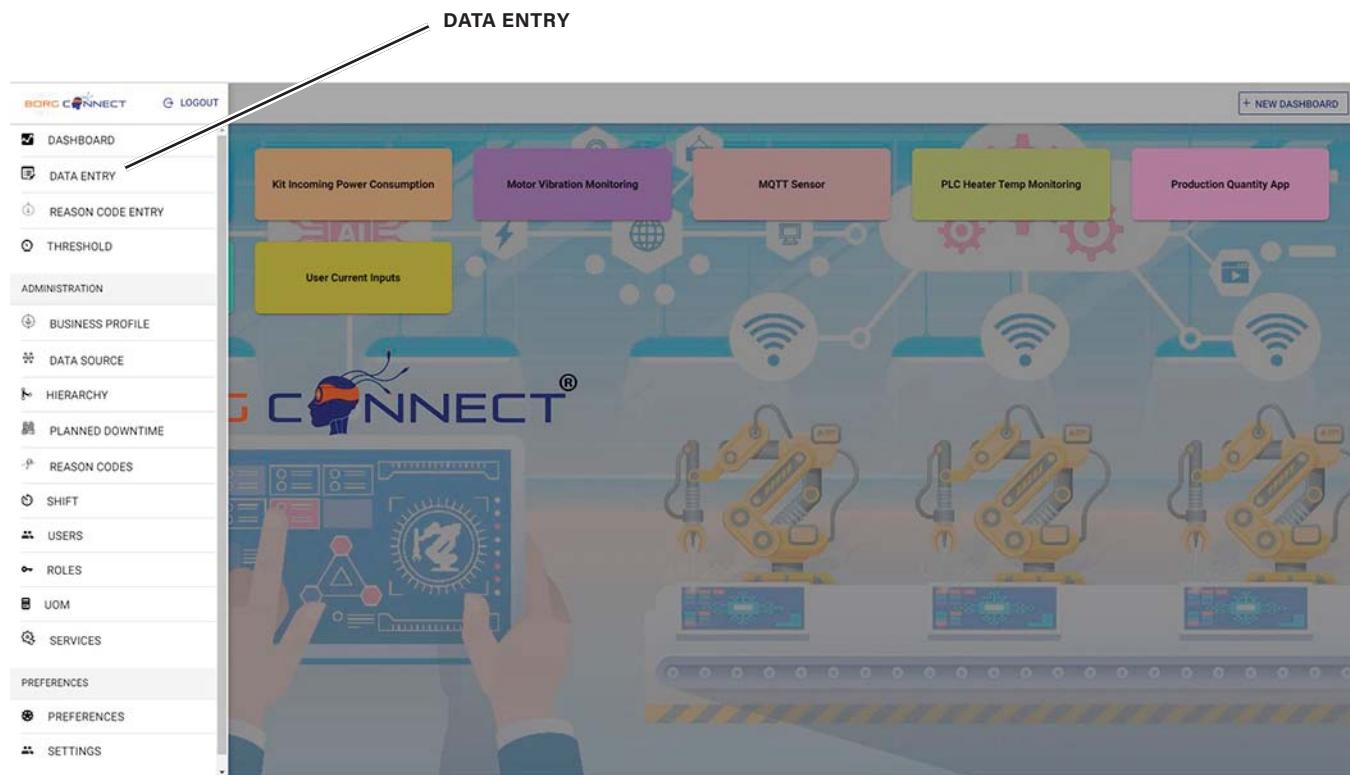

Figure 9-12. BorgConnect Dashboard Menu
B. Click **DATA ENTRY** as shown in figure 9-12.